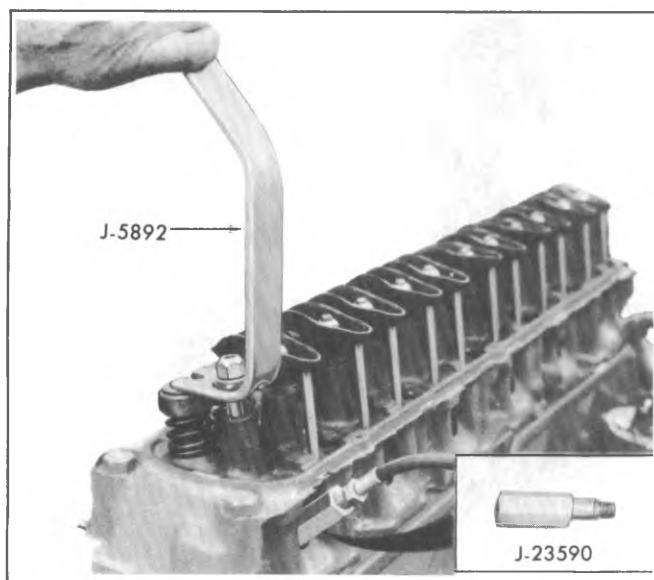

Fig. 6A1-1-1—Compressing Valve Spring
4. Using Tool J-5892 to compress the valve spring, remove the valve locks, valve cap, valve shield and valve spring and damper (fig. 6A1-11).